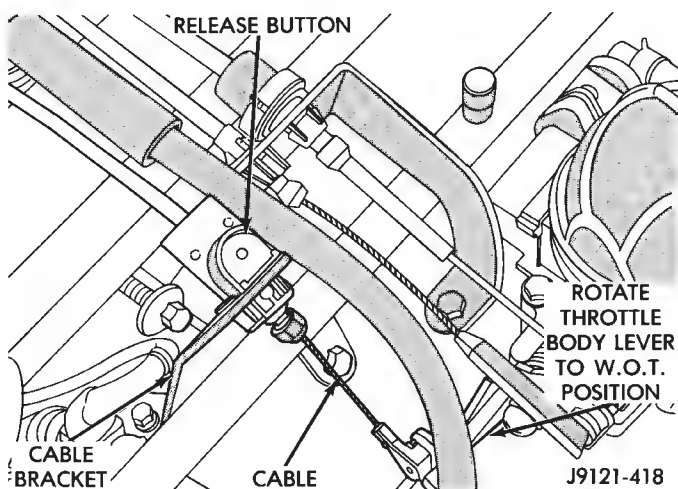

Fig. 7 Throttle Valve Cable Adjustment
- (3) Push cable conduit back into cable adjuster body as far as possible (Fig. 7).
- (4) Rotate throttle body lever to wide open throttle position. Cable will ratchet to correct adjustment point as lever is rotated (Fig. 7).